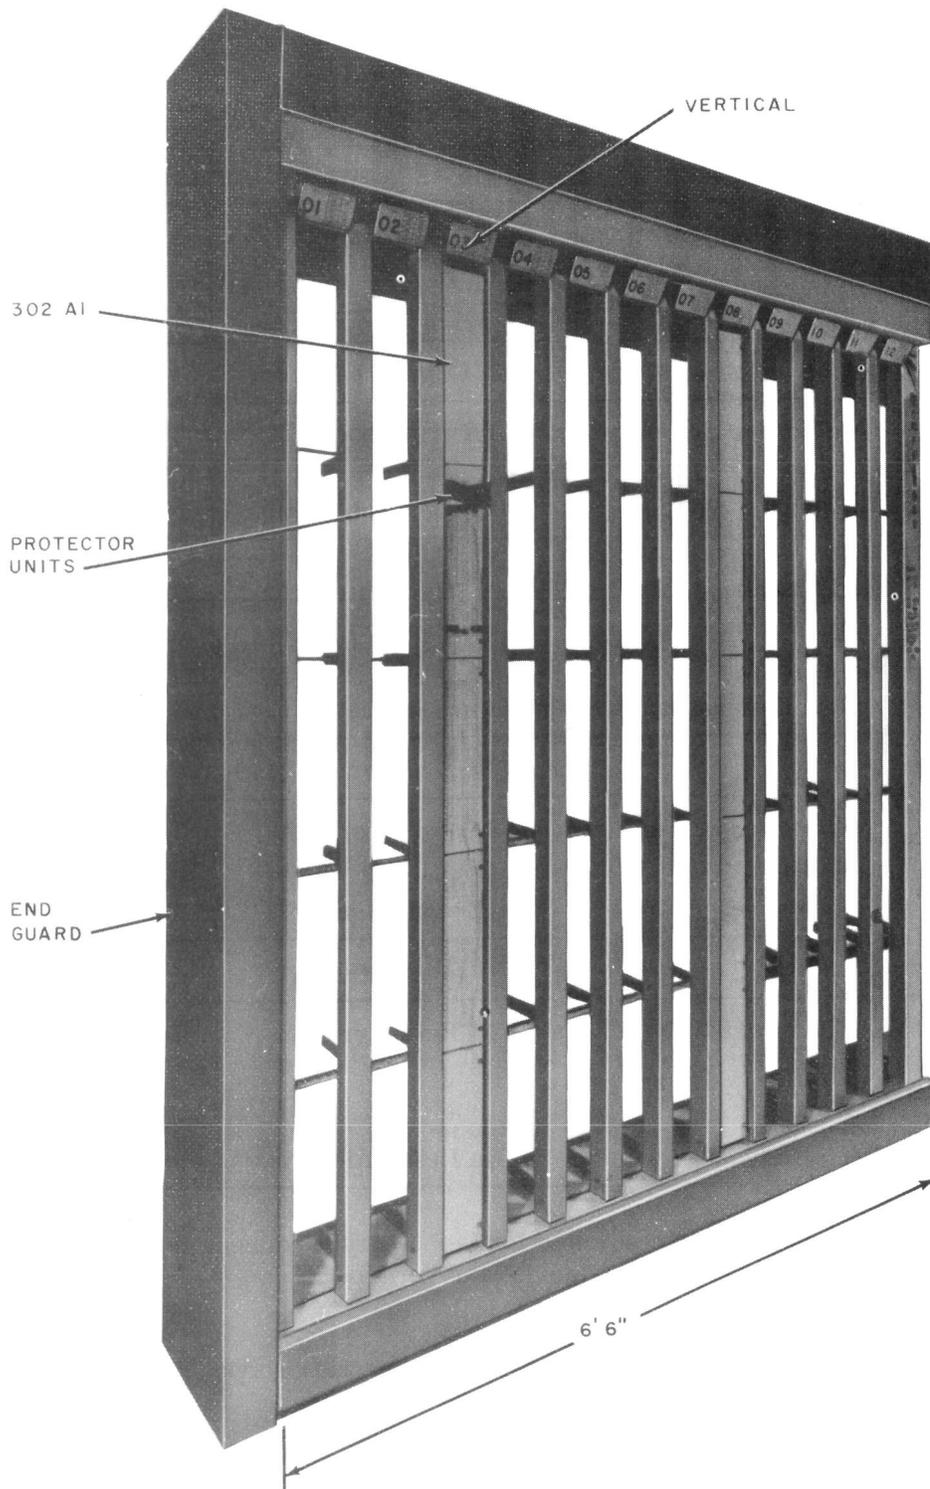

Fig. 1—Protector Frame Module—Front View
4.01 The protector frame module (Fig. 1) consists of 12 verticals, each of which accommodates five 302 Connectors. Each connector has a terminating capacity for protecting 100 cable pairs for a total of 500 pairs per vertical or 6,000 pairs per module. Outside plant cable pairs and tie cable pairs from the MDF or CDF are terminated on wire-wrap terminals at the rear of the 302-type connectors in such a manner that the plug-in protector unit becomes the interface between outside plant and office equipment.